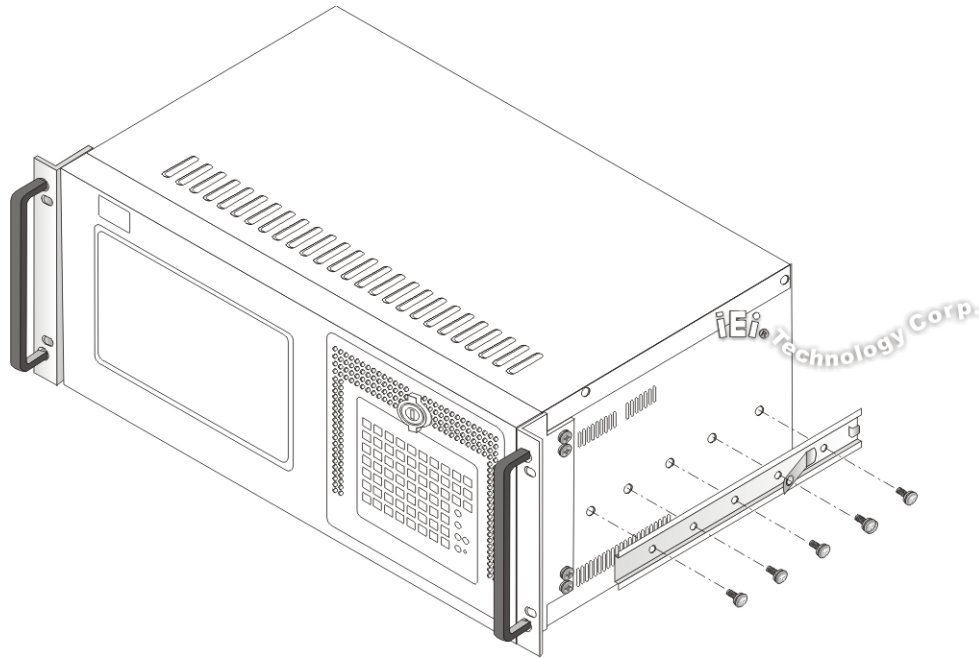

Figure 4-18: Workstation Slide Installation (Other Side Similar)
Step 3: The left and right side panels of the workstation each have five screw holes for rack slides. Attach one slide section each to the left and right side panel of the workstation. (See **Figure 4-18**)